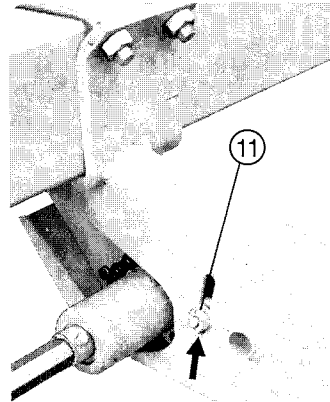

Fig. 17
Check that the chain of the drive wheel blocks are tight. If not, tighten adjustment bolt (11) in an "up" position for fixed drive wheels, and in the "down" position for adjustable drive wheels (fig. 17).